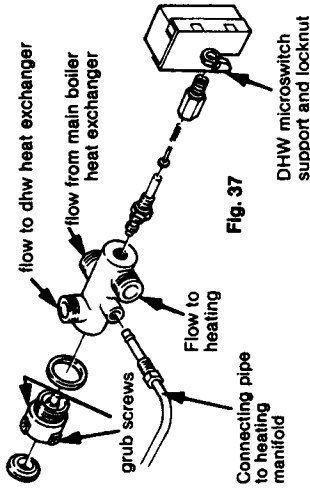

Fig. 37
- 8.16.6 Remove retaining nut (fig 37) and remove micro switch, disconnecting plug to fan slow speed resistor, in the process.
8.17.4 Unscrew retaining nut and remove micro switch (fig. 37).